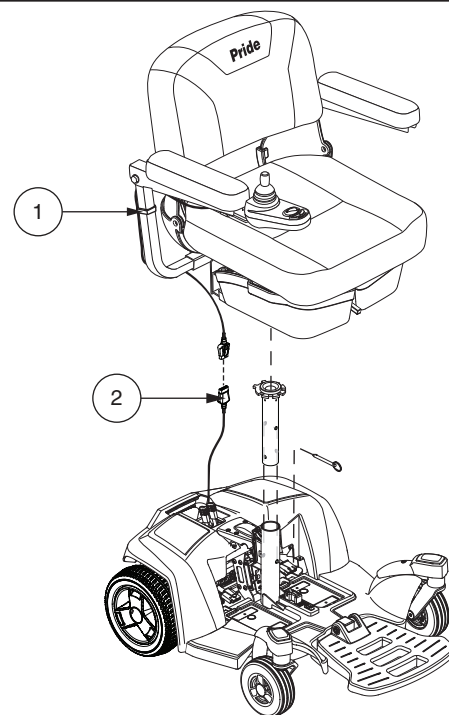

Figure 5. Seat Installation
2. Set the seat onto the seat post. **See figure 5.**
7. Secure the controller harness to the armrest with wire ties. **See figure 5.**
3. Disconnect the controller connector from the power base. **See figure 5.**